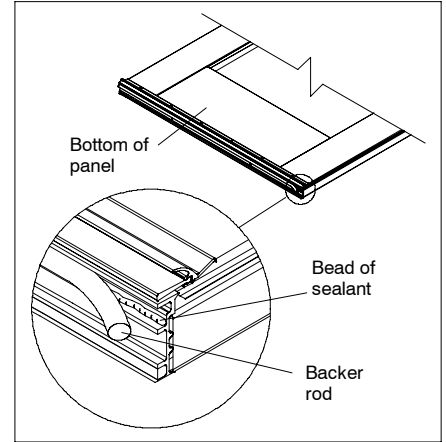

Figure 2
2. Apply a bead of sealant and backer rod to the exterior channel at the bottom of the panels. See figure 2.